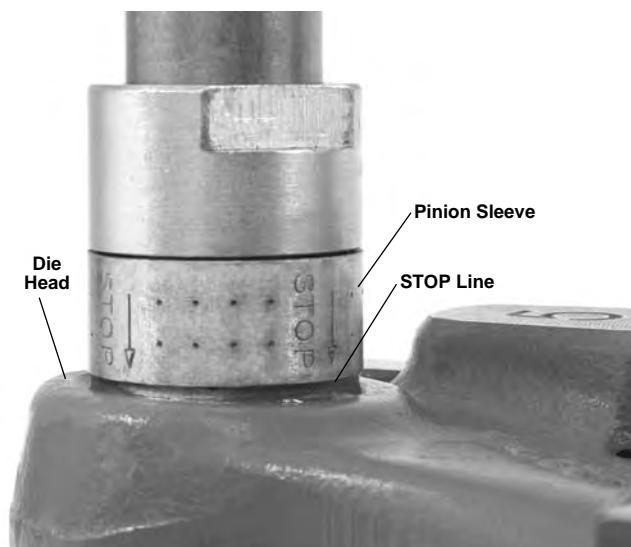

Figure 8 – Thread Complete – Top of Die Head Flush With STOP Line
5. Continue ratcheting until the top edge of the die head is flush with the red stop line on the pinion sleeve (see *Figure 8*).
12. Continue threading until the edge of the die head is flush with the red stop line on the pinion sleeve (Figure 8). Release foot switch. If threading is continued past the red stop line, the pinion shaft will disengage to prevent jamming. Do not continue to operate with the pinion shaft disengaged – over time this can cause tool damage.